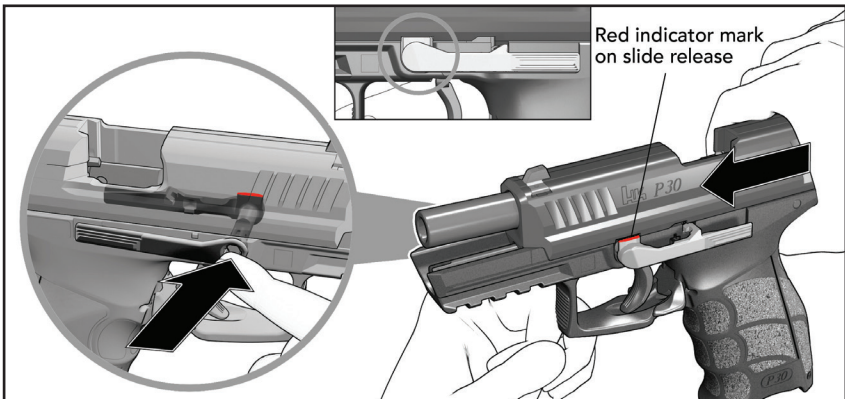

Figure 28— Removing slide from frame by pushing it forward
5. Pull slide back and move it to the front as far as the disassembly position (Figure 28).
6. Using your free hand, press the slide release axle in from right to left (Figure 28).